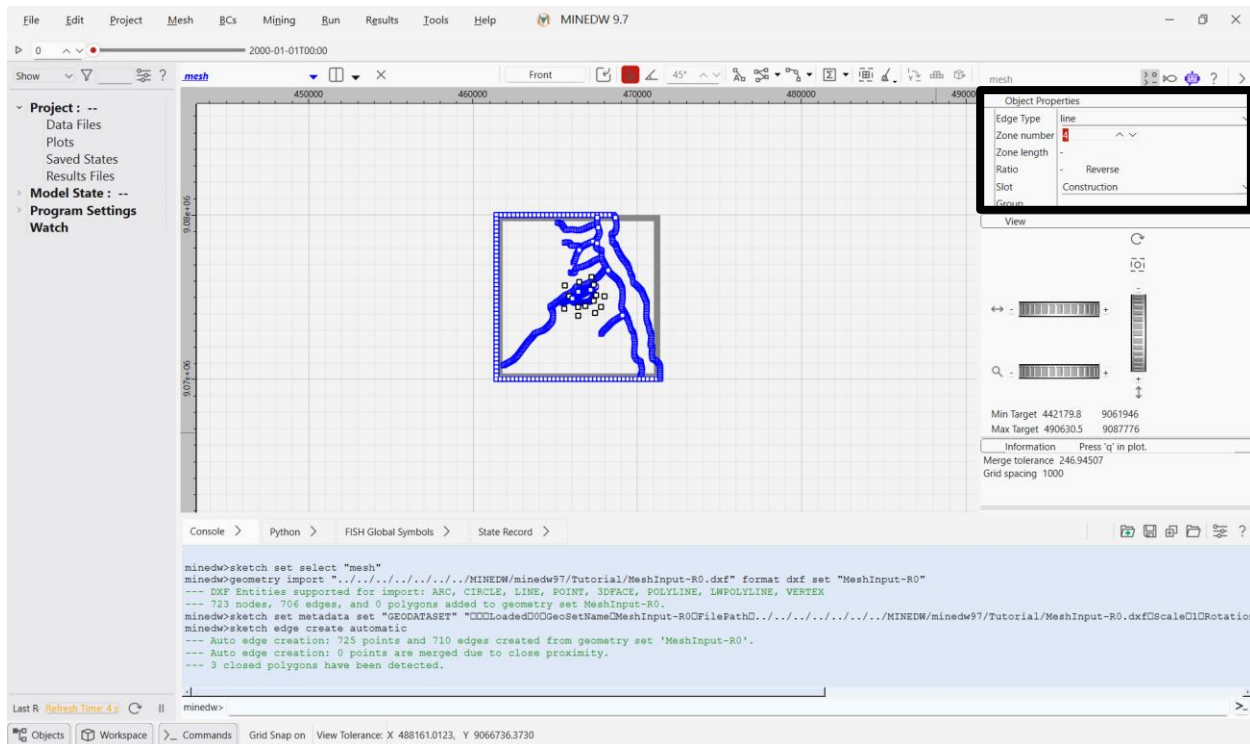

Figure 7. Selection of all the points and lines and change of zone number.
Then, drag a square and select all lines and points in the view and change the zone number from default (4) to 1 (Figure 7).